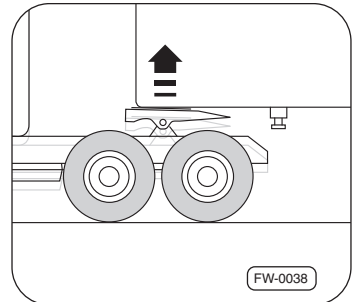

Fig. 15 · Raising the air suspension system
8. Lift the fifth wheel with help from the air suspension system, until the trailer is slightly raised with the landing gear clear of the floor ⇒ Fig. 15.